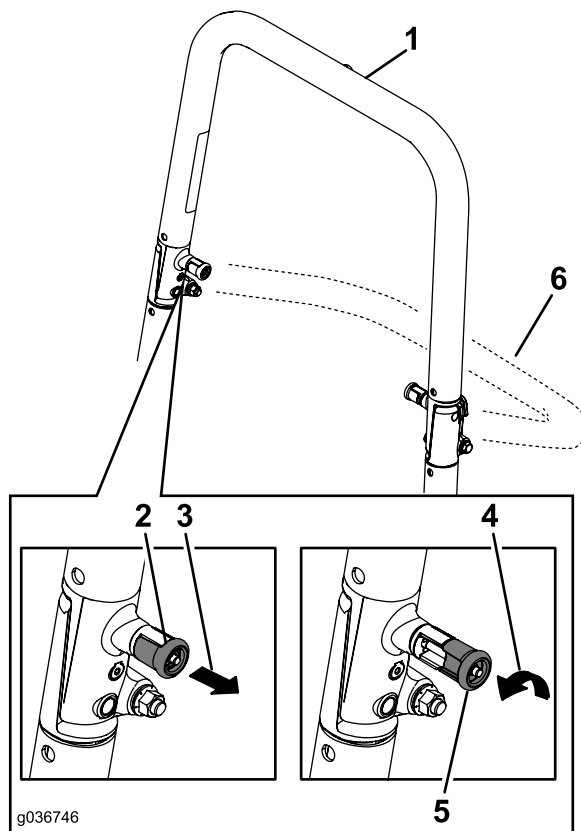

Figure 9
2. Pull both knobs out and rotate them 90 degrees so that they are not engaged (Figure 9).
3. Lower the roll bar to the down position (Figure 9).
1. Raise the roll bar to the operating position and rotate the knobs until they move partially into the grooves (Figure 9).
2. Raise the roll bar to the full upright position while pushing on the upper roll bar so that the pins snap into position when the holes align with the pins (Figure 9).